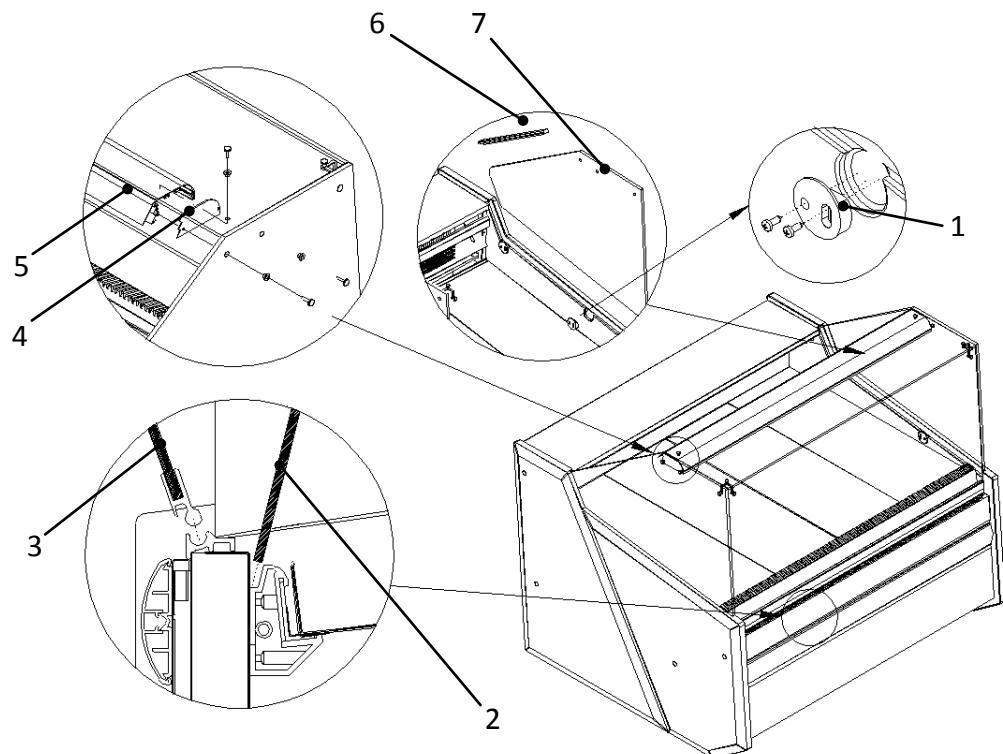

Fig. 4 Assembly of the glass elements and the aluminum lamp
2. Install the glass sides Fig. 4 \(p.8\).
3. Install the aluminum lamp (along with the luminaire) on the glass sides Fig. 4 \(p.8\).